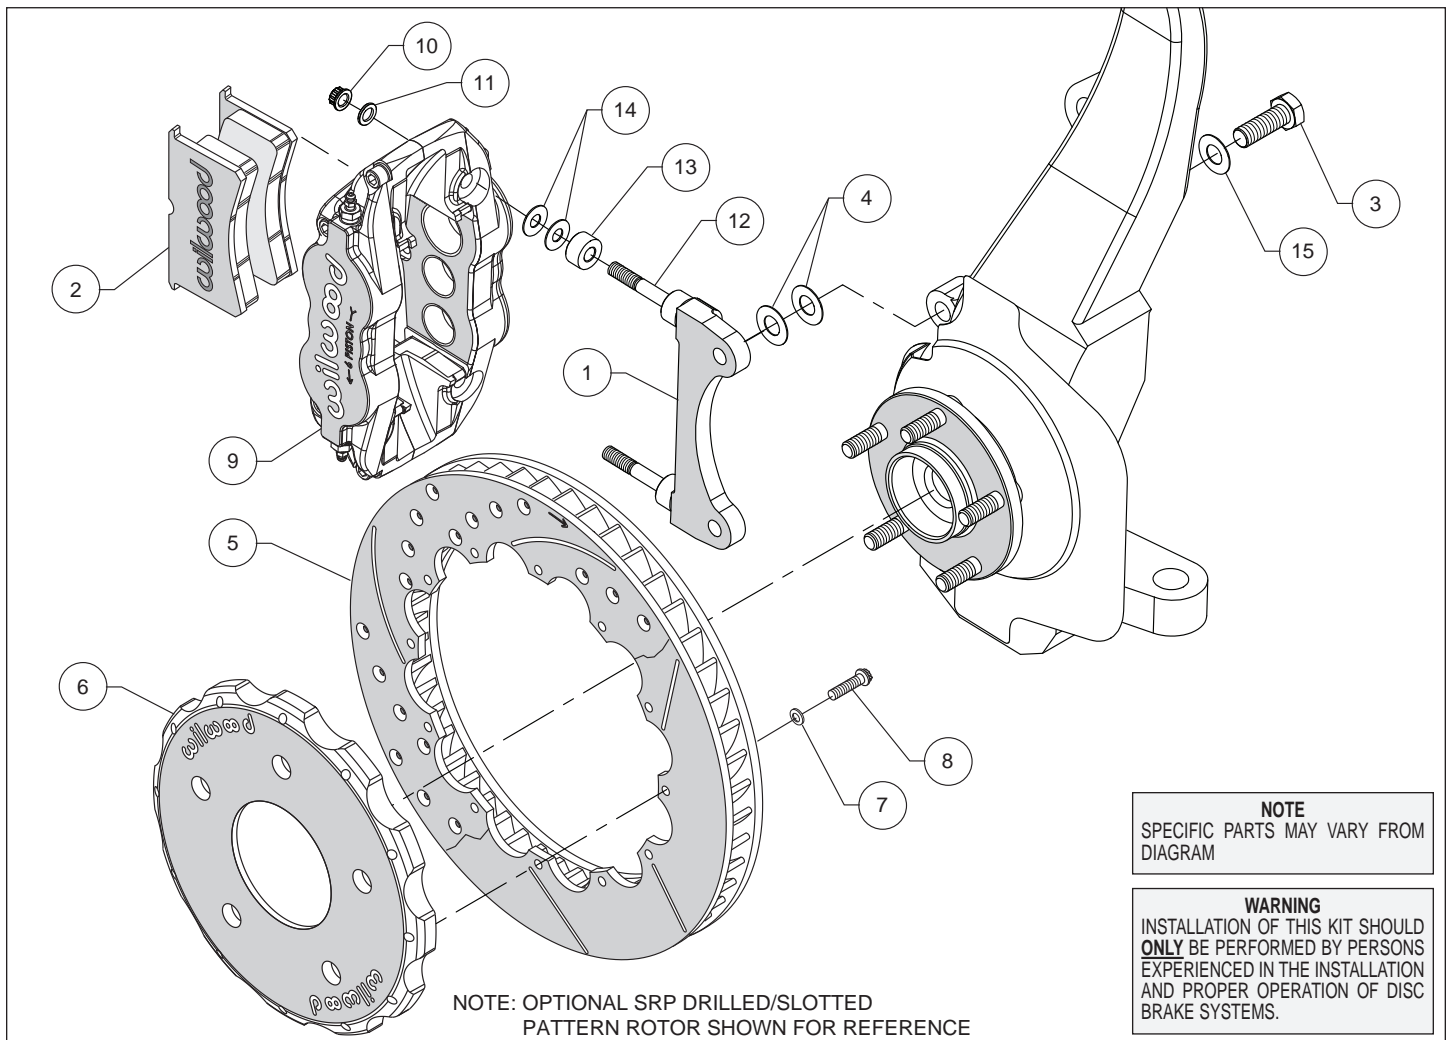
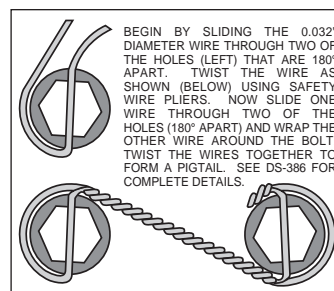

Figure 1. Typical Installation Configuration
Figure 4. Safety Wire Diagram
Assembly Instructions (numbers in parenthesis refer to the parts list and Figure 1 on the preceding pages):
•The caliper mount bracket (1) should initially be installed with clean, dry threads on the mounting bolts. Orient the bracket as shown in Figure 1 and Photo 1, and install using washer (15) and bolts (3). Initially place two additional shims (4) on each bolt between the bracket and upright, Figure 1. Temporarily tighten the mounting bolts. **NOTE:** The bracket must fit squarely against the mount bosses on the upright. Inspect for interference from casting irregularities, machining ridges, burrs, etc. Later, after the caliper alignment has been checked, the mount bolts will be secured using red *Loctite*® 271.
•Orient the rotor (5) and the hat (6) as shown in Figure 1 and Photo 2. Attach rotor to hat using bolts (8) and washers (7). Using an alternating sequence, apply red *Loctite*® 271 to the threads and torque bolts to 155 in-lb. For an added measure of security, the bolts may be safety wired using standard 0.032 inch diameter stainless steel safety wire as shown in Figure 4. Please refer to Wilwood's data sheet DS-386 (available at www.wilwood.com/Pdf/DataSheets/ds386.pdf) for complete safety wire installation instructions.
•**NOTE:** This kit contains distinct right and left hand calipers that must be mounted in a specific direction, as described below. Lubricate the caliper mounting studs (12) with lightweight oil. Initially place two .035" thick shims (14) and one spacer (13) on each stud as shown in Figure 1 and Photo 3. Mount the caliper (9) onto the bracket (1) using lock nuts (10) and washers (11), Figure 1 and Photo 4. Ensure that the caliper is mounted so that the largest pistons are at the rotor exit end of the caliper, in relation to the direction of rotor rotation. Temporarily tighten the lock nuts and view the rotor through the top opening of the caliper. The rotor should be centered in the caliper, Photo 5. If not, adjust by adding or subtracting shims (4) between the bracket and the upright. Always use the same amount of shims on each of the two mounting bolts. Once the caliper alignment is correct, remove the bracket mounting bolts one at a time, apply red *Loctite*® 271 to the threads, and torque to 75 ft-lb.